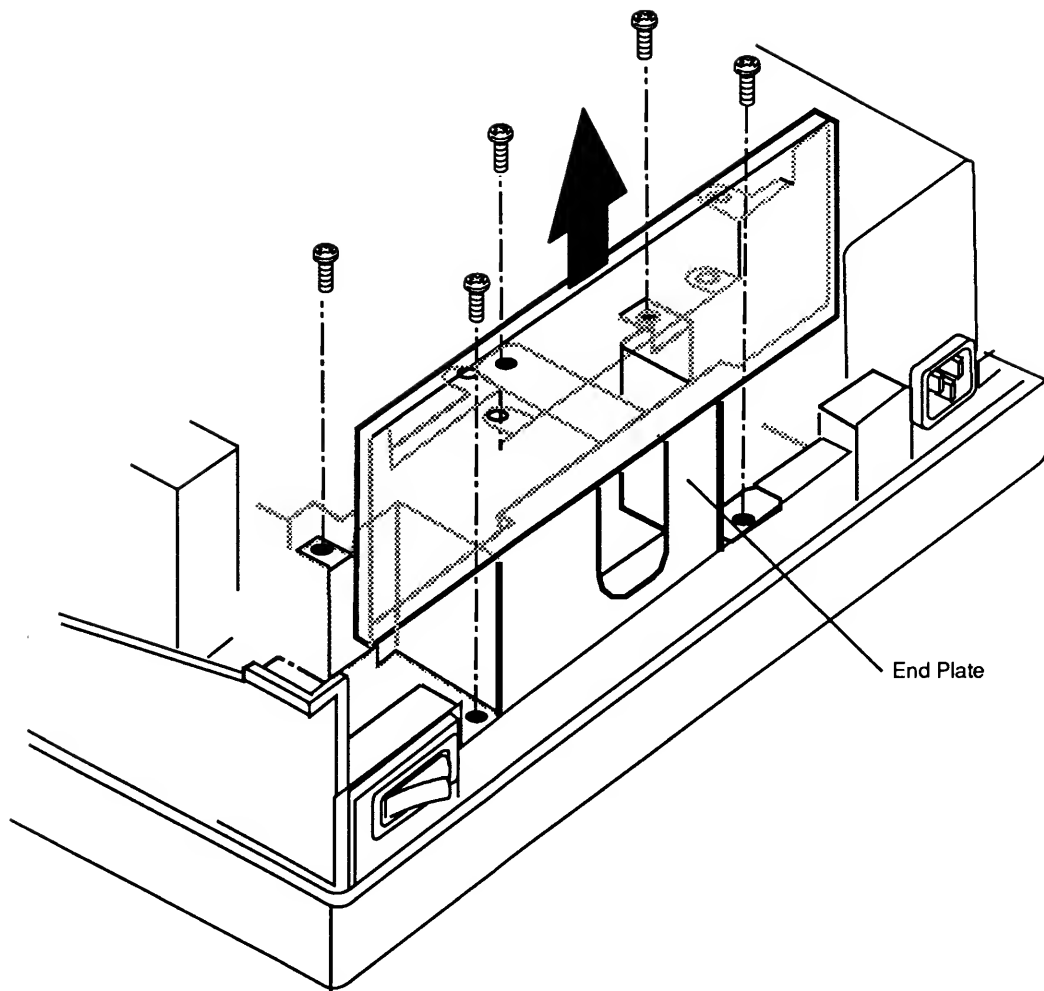

Figure 2-15 End Plate (LaserWriter LS)
2. Remove the five silver-colored screws that hold the end plate to the printer chassis (**Figure 2-15**).
3. Lift the end plate out of the printer (**Figure 2-15**).